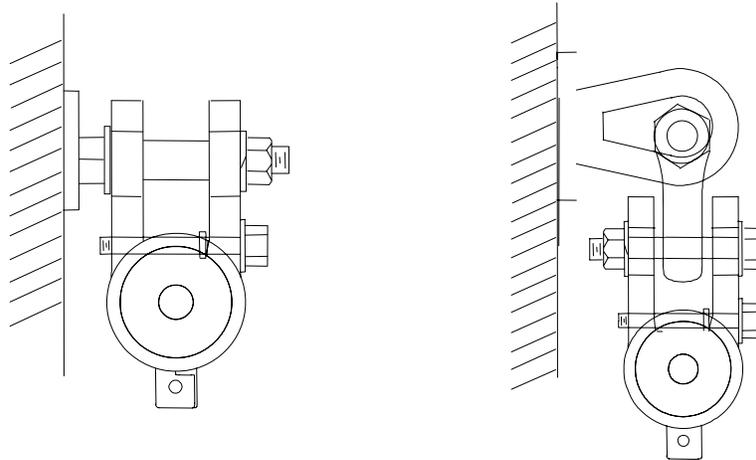

Figure 2 – Tangent Supports, Fixed (left) and Suspension (right) Assemblies
2.1 The tangent support assembly is used to attach ADSS cable to intermediate poles along the cable route. The tangent supports are intended for short span applications (<600 ft) where the turn angle does not exceed 20°. The tangent supports are available as either suspension or fixed assemblies (Figure 2). The assemblies consist of a housing, cable inserts, and shackle (suspension assembly only). The following instructions describe installation of the tangent supports.